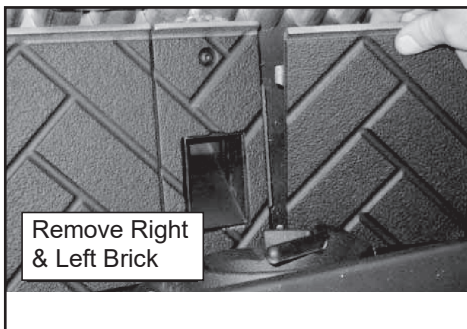

Figure 26.2
3. The top baffle must be removed before you can remove the right and left brick. Remove the right brick by holding top lip of brick and lifting up, then push outside edge back. Slide brick to the right until it is flush with the firebox. Rotate the inside edge of the brick forward and remove brick. Repeat for left brick (**Figure 26.2**).